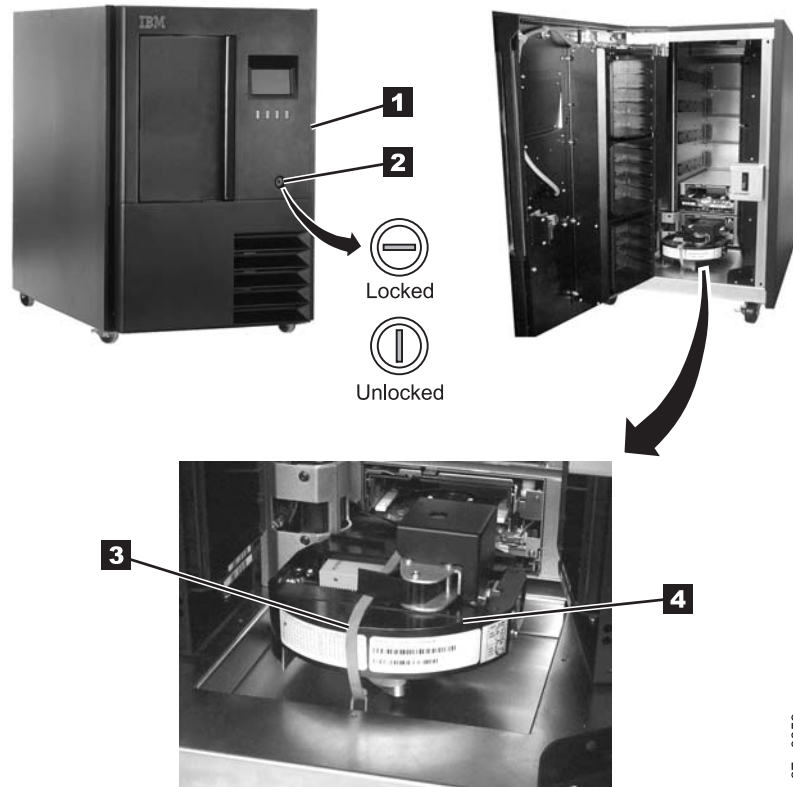

Figure 14-2. Installing a stand-alone library
1. Open the front door **1** by using the key **2** (see Figure 14-2).